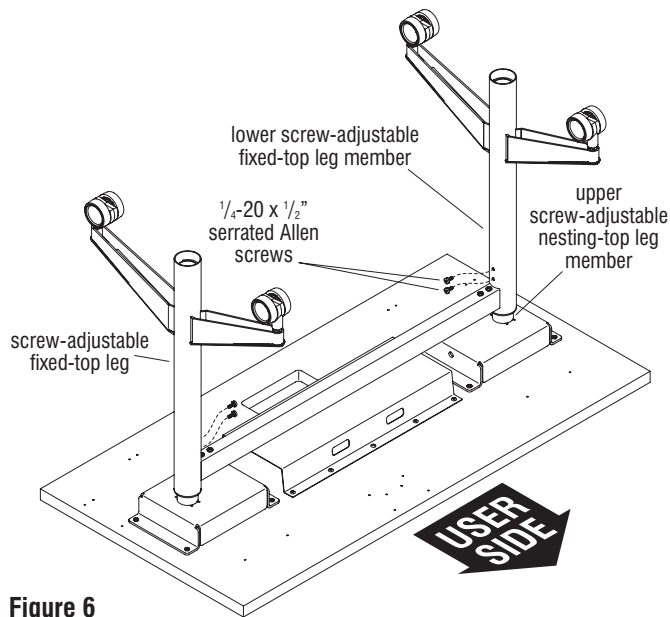

Figure 6
14. With the table upside down on a soft, protective surface, remove the two  $\frac{1}{4}$ -20 x  $\frac{1}{2}$ " serrated Allen screws from each lower leg member as illustrated (Detail D), then raise the pair of lower legs up to gain access to under the top of the lower cross-brace. At the cross brace, install one final  $\frac{1}{4}$ -20 x  $\frac{5}{8}$ " Torx screws at each end (Detail E) to secure the cross brace to the cross-brace attachment bracket (Figures 6 & 7, Details D & E).
15. With the two  $\frac{1}{4}$ -20 x  $\frac{1}{2}$ " serrated Allen screws removed from each side in step 14 above, move the lower leg members up, or down to the desired height (1" increments). Align the two adjustment holes on the lower member with the two holes in the upper leg member and secure to the desired leg height using the four previously removed  $\frac{1}{4}$ -20 x  $\frac{1}{2}$ " serrated Allen screws (Figures 6 & 7, Detail F).